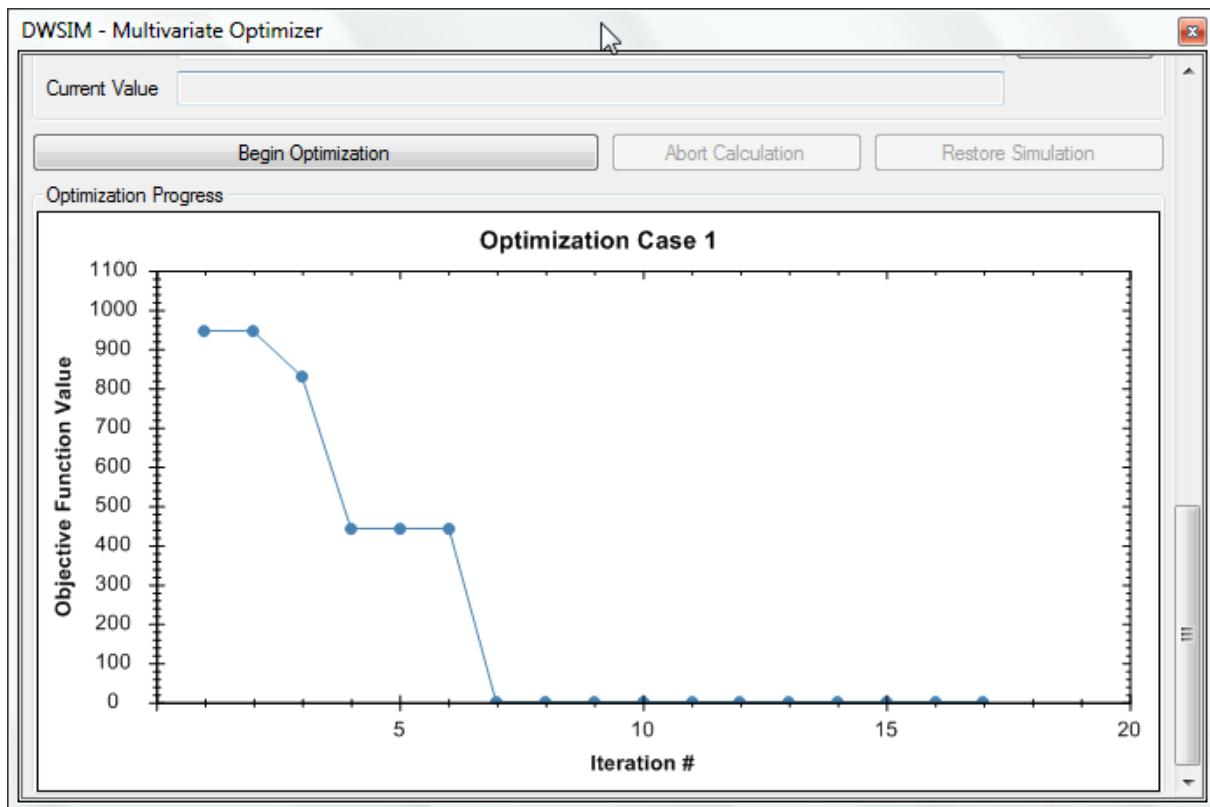

Figure 40: Multivariate Optimization Utility (3).
**Removing objects from the flowsheet** The selected object can be removed from the flowsheet by pressing the DEL keyboard button or by using the context menu - "Delete" item (Figure 40).
**Entering process data** The objects' process data (temperature, pressure, flow, composition and/or other parameters) can be entered in the property editor window (Figure 40). Properties that cannot be edited (read-only) are grayed-out.
If all object properties were correctly defined, it will be calculated by DWSIM and its flowsheet representation will have a blue border instead of a red one, indicating that the object was calculated successfully (Figure 40).
To undo or redo an action, click on the "Edit" menu item and then on the corresponding menu items (Figure 40). You can also access a list of actions to undo or redo through the arrow buttons located in the menu strip, near to the "Flowsheet" label (Figure 40).
The "Edit" menu also contains some handy tools for handling flowsheet objects, as well as simulation and application configuration menu items (Figure 40).
It is possible to control DWSIM's calculator by using its button bar (Figure 40). Clicking on the button activates or deactivates the calculator. The button performs a full flowsheet recalculation.
As DWSIM's calculator does its job, messages are added to the "Information" window. These messages tell the user if the object was calculated successfully or if there was an error while calculating it, among others (Figure 40).
Results can be viewed in reports, generated (Figures 40 and 40) for printing. Report data can also be saved to ODT, ODS, XLS, TXT or XML files.
→ **True Critical Point** - utility to calculate the true critical point of a mixture (Figure 40).
→ **Phase Envelope** - Material stream phase equilibria envelope calculation (Figure 40);
→ **Binary Envelope** - special envelopes for binary mixtures (Figure 40).
→ **Petroleum Cold Flow Properties** - special properties of petroleum fractions, like cetane index, flash point, refraction index, etc. (Figure 40).
Chemical reactions in DWSIM are managed through the **Chemical Reactions Manager** (Simulation Settings > Reactions panel) (Figure 40):
The user can define various reactions which are grouped in *Reaction Sets*. These reaction sets list all chemical reactions, and the user must activate only those he/she wants to become available for one or more reactors, since the reactor's parameter is the **reaction set** and not the chemical reactions themselves. In the reaction set configuration window it is also possible to define the reaction ordering. Equal indexes define parallel reactions (Figure 40):
DWSIM provides three tools for characterization of petroleum fractions. One of them characterizes C7+ fractions from bulk properties (Figure 40). The other characterizes the oil from an ASTM or TBP distillation curve (Figure 40). There is also a tool to create pseudocompounds from tabular data.
- **Characterization from bulk properties** The method itself requires a minimum of information to generate the pseudocomponents, though the more data the user provides, the better will be the results (Figure 40). It is recommended that the user provides the specific gravity of the C7+ fraction at least. Viscosity data is also very important.
The interface has a wizard-like style, with various customization options (Figure 40):
**- Bulk/Batch creation of pseudocomponents/pseudocompounds** The Bulk Create Pseudocompounds tool can be used to create pseudocompounds in a batch when you have the required data in a tabular format, or only part of the data. If some data is missing, DWSIM can estimate it before exporting the compounds to XML, JSON or add them to the Flowsheet (Figure 40).